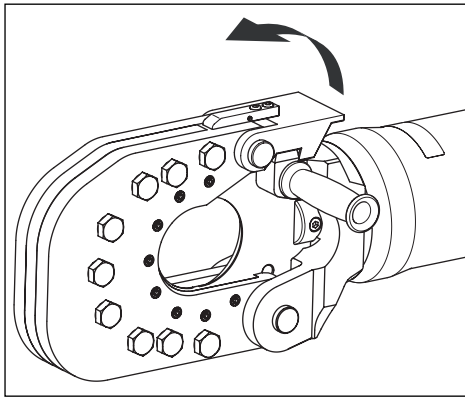
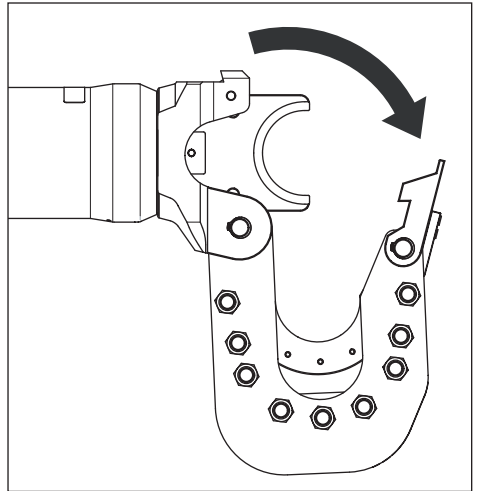

Figure 4, Locking Latch
Figure 5, Opening the Cutting Head
**To open the cutting head:** lift up on the locking latch and swing it up and away from the cutter body as shown in Figure 4. Then, swing the cutting head away from the cutter body as shown in Figure 5.